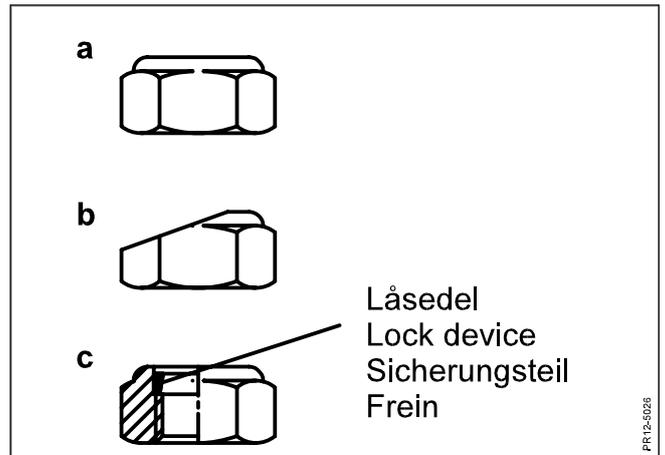

Fig. 6-7
- Fig. 6-7 The special nut must be replaced if: